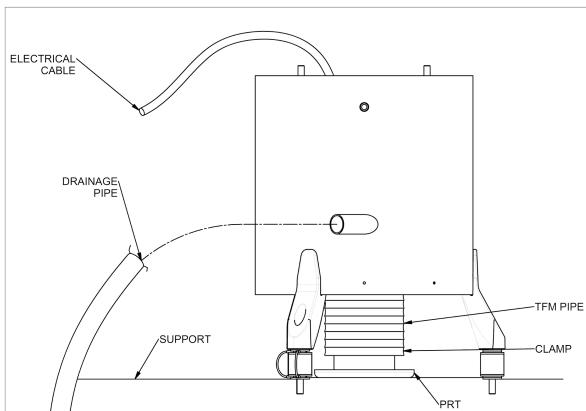

Fig. 11 – Installation example
4.4. Installation in vertical position (Fig. 11)